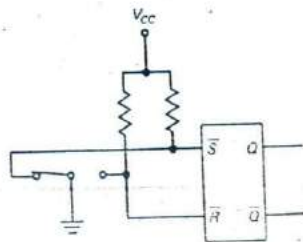

Fig. 11-17 A bounceless switch circuit.
Figure 11-17 shows an application for the R-S latch. It is being used to debounce a mechanical switch. When switch contacts close, they bounce. They make and break rapidly until the bouncing stops. This process lasts for several milliseconds and can create dozens of extra pulses in a circuit. The *bounceless switch circuit* avoids this problem because when the switch is thrown, it grounds either the set or the reset input of the latch, so the latch is either set or reset. As the contacts bounce open and closed, there is no change in the latch because once it is set it is not affected by subsequent set pulses. Likewise, once it is reset it is not affected by subsequent reset pulses. The *pull-up resistors* ensure a logic high at the inputs when not grounded by the switch. The circuit will work without the resistors if the latch is a TTL family device since the inputs float high. However, it is considered good practice to use the resistors.
- Refer to Fig. 11-17. What are the resistors called?